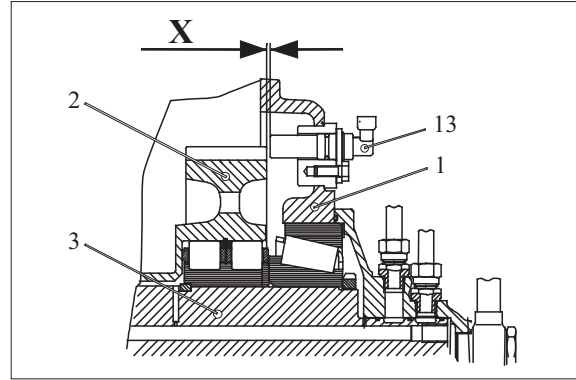

Figure 382
Install speed transmitter n-Output/Speedo (13) (figure 382~387)